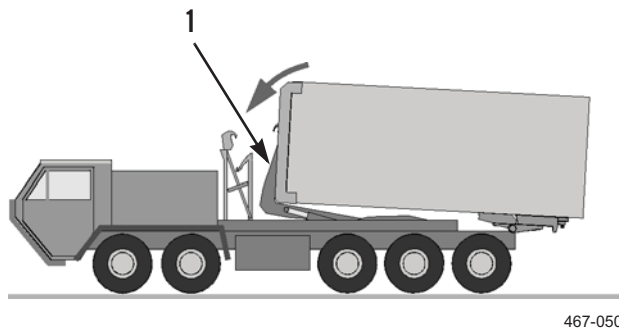

Figure 13. Hook Arm Near Home Position.
6. When hook arm (Figure 13, Item 1) is near its home position, return engine to idling speed (PLS: TM 9-2320-364-14&P, HEMTT: TM 9-2320-326-14&P).